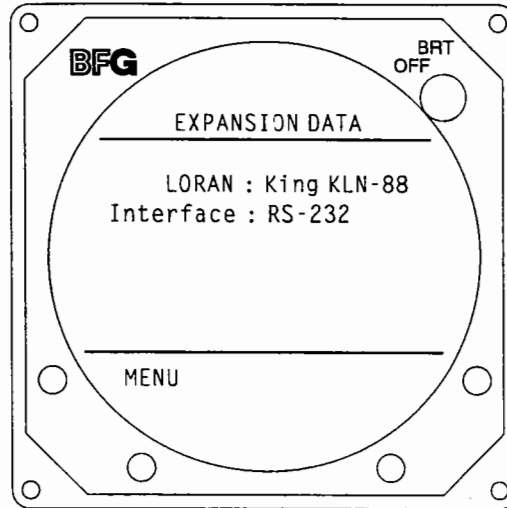

Figure 3-27. Expansion Tests - Screen 1
1. The first screen prompts the operator to set up the system properly for the testing that will be performed. This display is shown in figure 3-27.
Buttons 1 and 4 on the first EXPANSION TESTS screen (figure 3-27) provide the following functions (buttons 2 and 3 are not used):